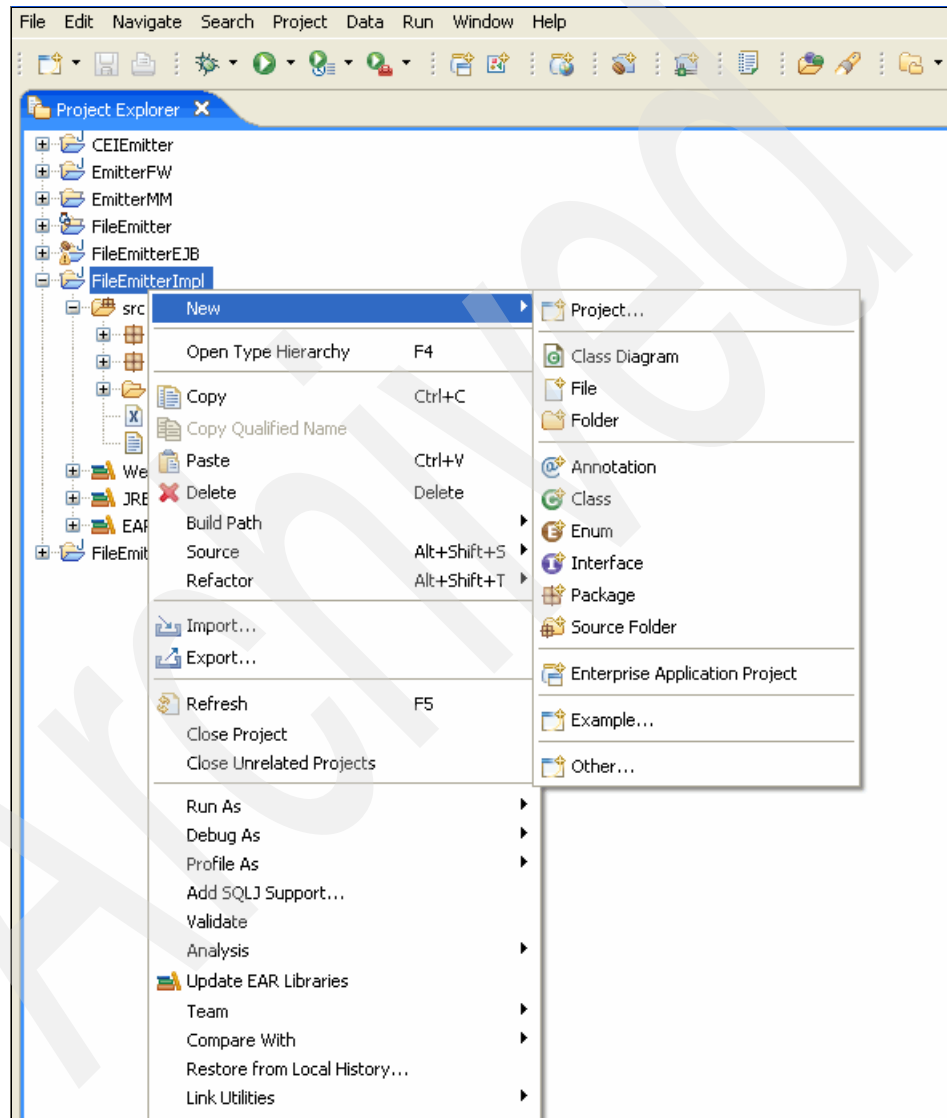

Figure 9-14 Adding a new XML schema
1. In Rational Application Developer, under the Project Explorer view (Figure 9-14), right-click the **FileEmitterImpl** Java Project and select **New** → **Other**.